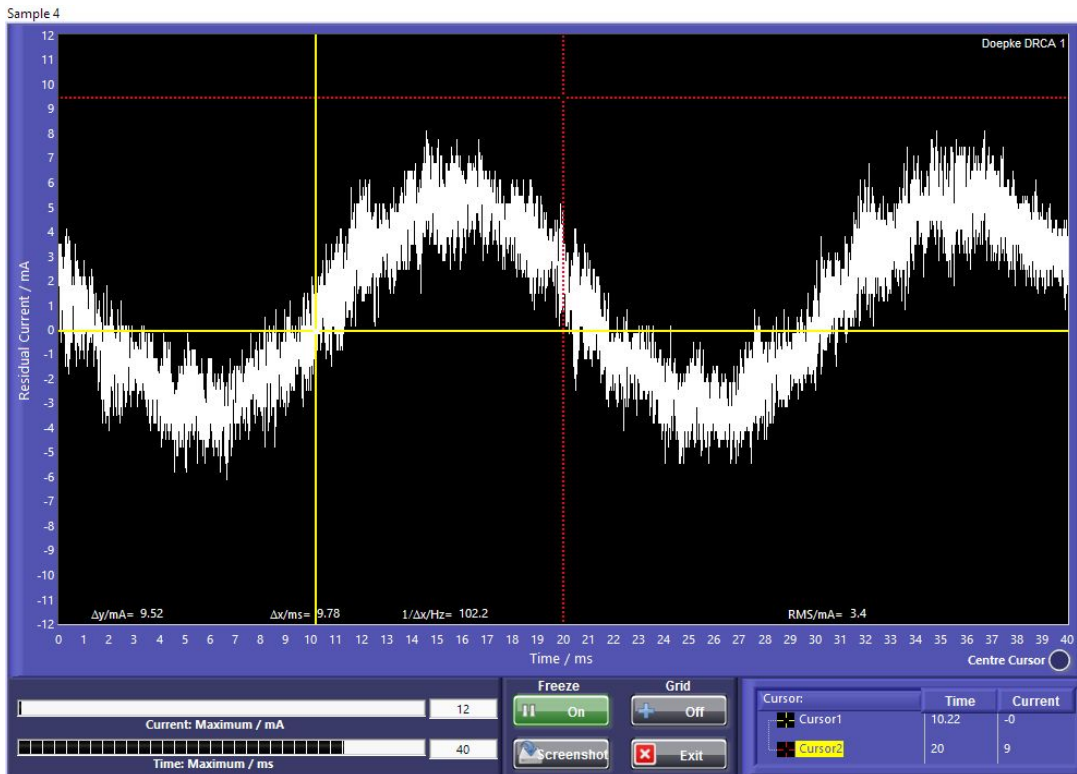

Figure 1. Domestic leakage current with appliances running
**Example 1 Leakage Current:** For a modern domestic ring main, if you connected a residual current analyser on the output side of the RCD, the leakage current should be sinusoidal (50Hz) with some possible distortion, based on the types of appliance connected /running at the time of the test - see Figure 1. The shape of the wave form and values of leakage current reflect the characteristics of the appliances connected to the supply. Harmonics already present on the incoming supply due to the increasing number of PV installations, Switch mode power supplies, LED lighting, and other solid state controlled appliances, can also have an effect on total leakage current.